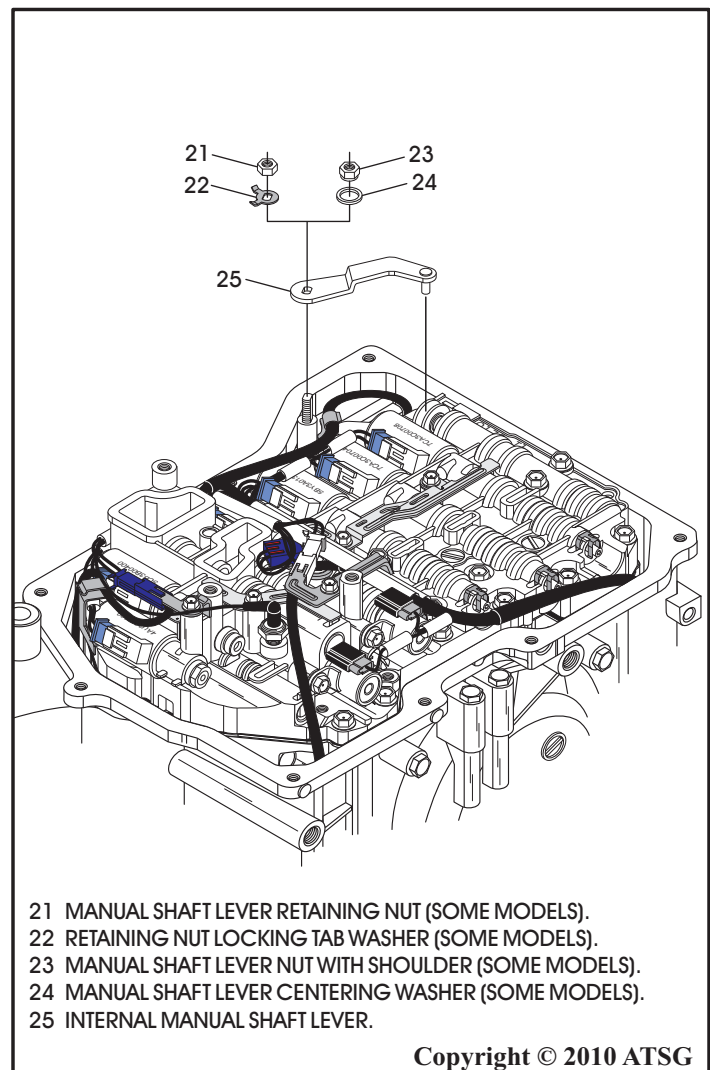

Figure 202
79. Connect all 8 solenoid connectors to the proper solenoids, as shown in Figure 202, using the list of the wire colors to each of the solenoids that you prepared during the disassembly process.
80. Connect wire connectors to both speed sensors, as shown in Figure 202.
81. Connect both hydraulic switches (if used), as shown in Figure 202.
82. Install the internal manual shift lever to manual shaft as shown in Figure 202, and ensure lever engages into manual valve properly.
83. Install the internal manual shift lever retaining nut, as shown in Figure 202.
Note: There are two different designs of the manual lever nut, as shown in Figure 202.